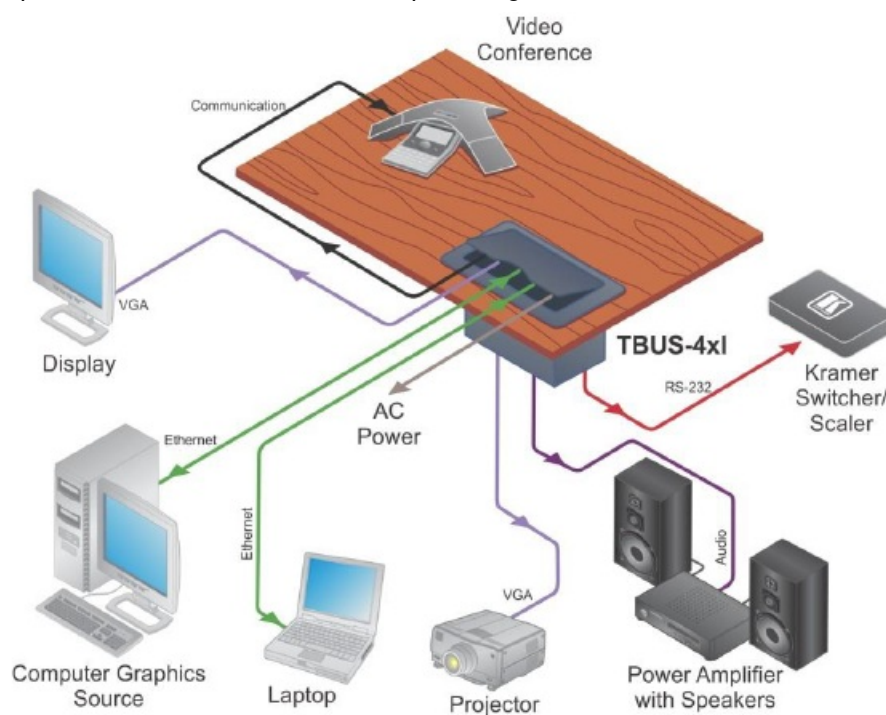

Figure 6: TBUS-4xl Boardroom Installation
- Once the TBUS-4xl is installed, you can easily customize it to suit your requirements by plugging in the required A/V equipment, as illustrated in the example in Figure 6.